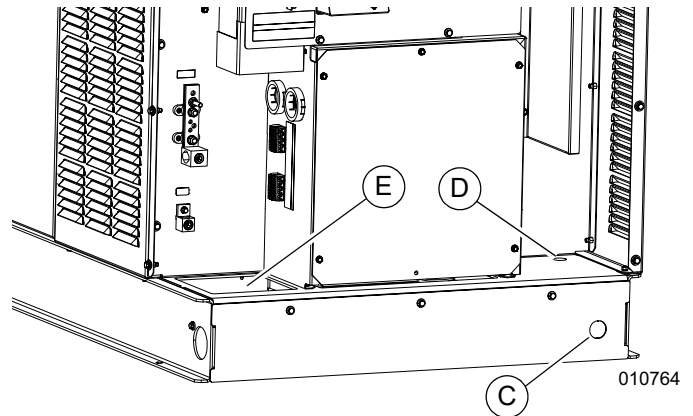

Figure 3. Ethernet Cable Install Locations
- See Figure 3. Unit may have a knockout (C) on rear kick plate at unit base (either side). Run Ethernet cable through knockout in kick plate or pull cable through generator installation pad.